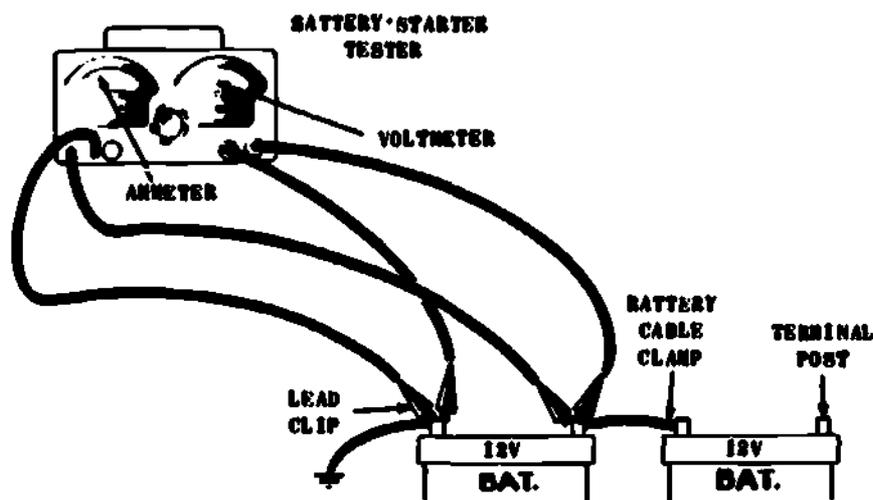

Fig 1-10. Battery capacity test connections.
- (a) **Battery capacity test** (fig 1-10). The capacity test is made if visual inspection and preliminary tests fail to locate the electrical trouble or if electrical troubles are reoccurring. Before making the capacity test, the electrolyte must be at the proper level and have a specific gravity of at least 1.225 at 60°F or above.
- Step 1. Turn the control knob of the tester to the OFF position and connect the ammeter leads as illustrated (fig 1-10).